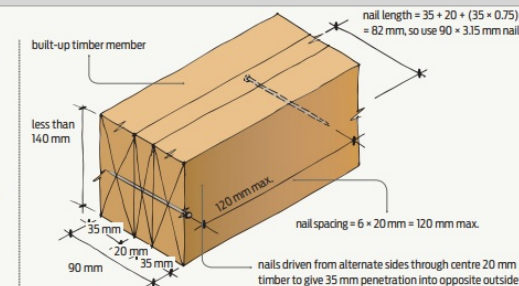

Figure 1 Built-up horizontal member under 140 mm depth (for lintels and beams).
- all nails are required to penetrate at least three-quarters of the last framing faces of the member (see Figure 1).